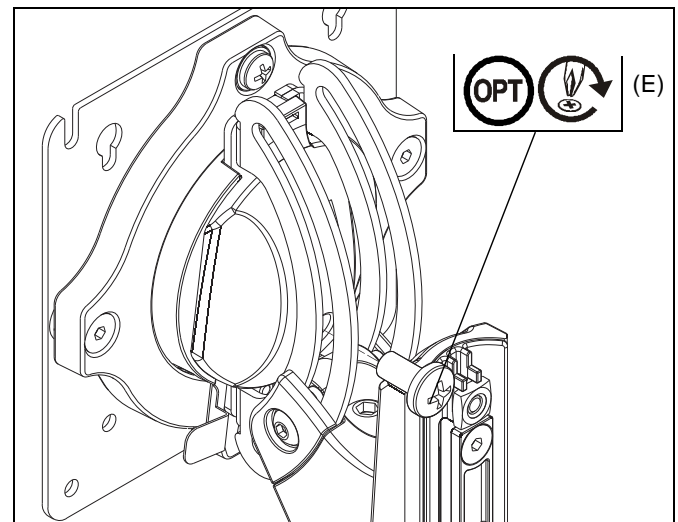

Figure 8
NOTE: In order to prevent display from being easily removed from mount using the quick release lever, install M4x4mm security screw (E) into lower hole on back of faceplate. (See Figure 8)